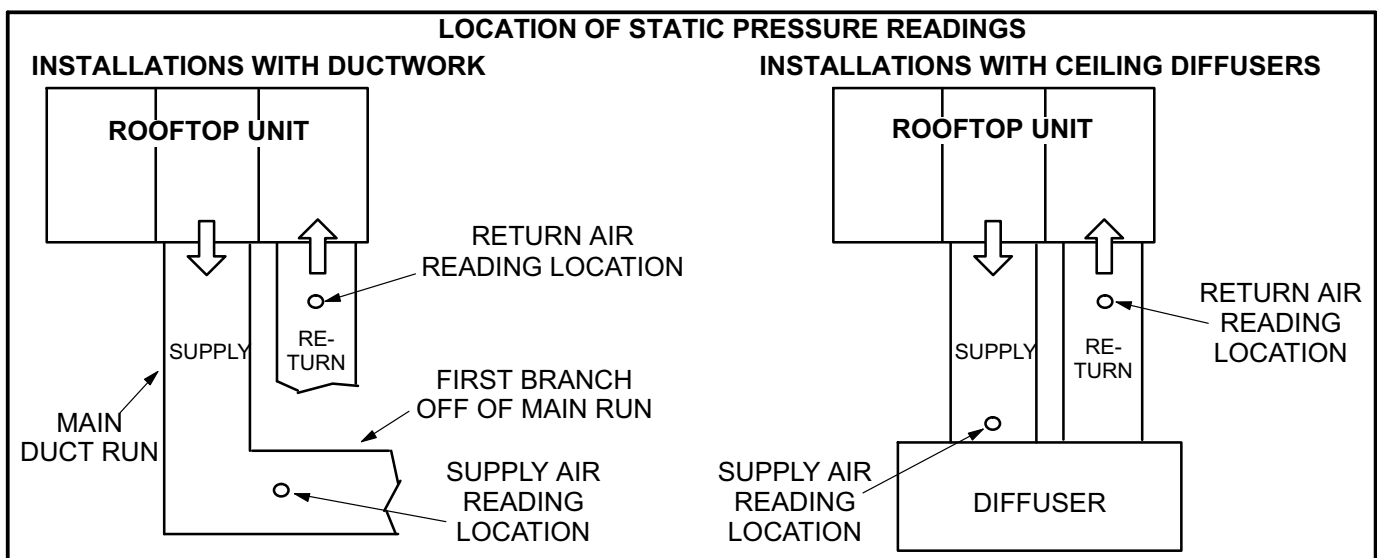

FIGURE 20
- 2- With all access panels in place, measure static pressure external to unit (from supply to return). Blower performance data is based on static pressure readings taken in locations shown in figure 20.